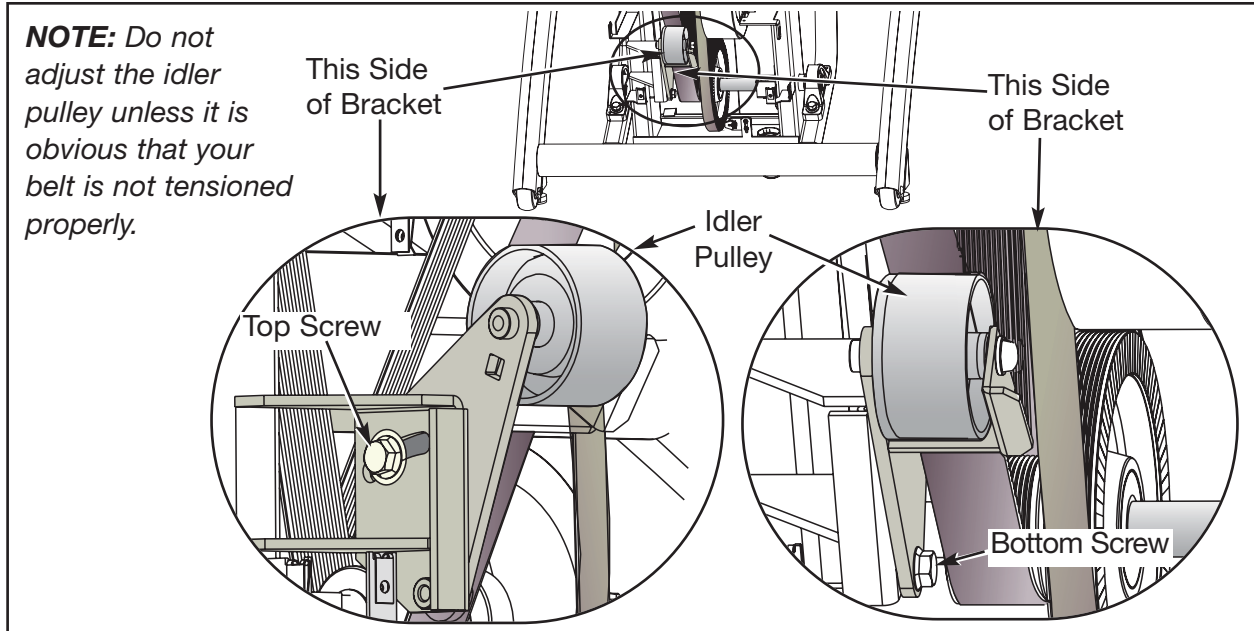

Figure 14
- A. Using a 1/2" socket wrench, loosen the bottom screw on the idler pulley. See Figure 14.
- B. Using a 1/2" socket wrench, loosen the top screw on the idler pulley. See Figure 14.
- B.** While holding the torque wrench at 75 ft-lbs, use a 1/2" socket wrench to tighten the top screw on the idler pulley. See Figure 14.
- C.** Using a 1/2" socket wrench, tighten the bottom screw on the idler pulley. See Figure 14.